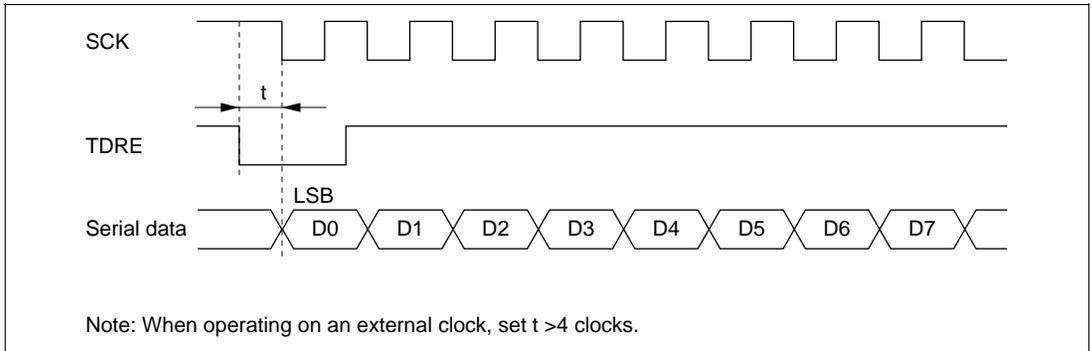

Figure 12-22 Example of Clocked Synchronous Transmission by DTC
- When an external clock source is used as the serial clock, the transmit clock should not be input until at least 5ϕ clock cycles after TDR is updated by the CPU and DTC. Misoperation may occur if the transmit clock is input within 4ϕ clocks after TDR is updated. (Figure 12-22)